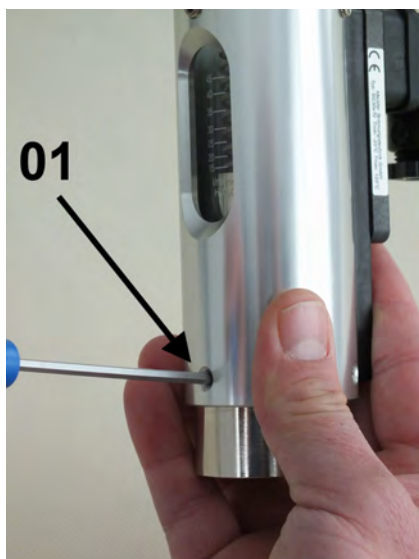

Fig. 48: Secure the process connection (inlet)
9.  Secure the inlet process connection to the device housing with 3 hex socket screws (Fig. 48/01), observing the proper torque.